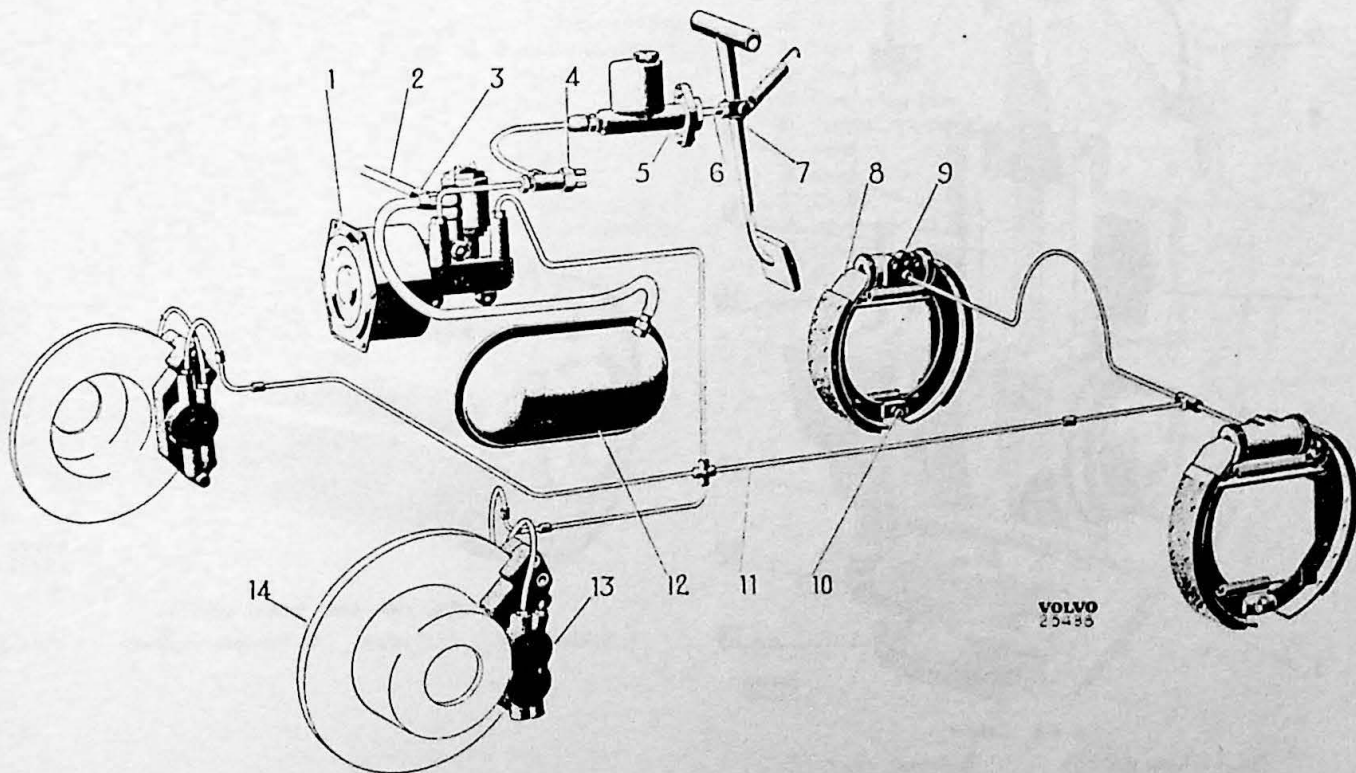

Fig. 7-1. Footbrake system
The design of the footbrake is shown in Figs. 7-1—7-5.
The front wheel brake units are of the disk brake type. The disks (14, Fig. 7-1) are of steel and are attached to the hubs with which they rotate. A retainer (13) is fitted at each steering knuckle for the wheel unit cylinders and brake blocks, known as calipers. In addition, protective covers for the brake disks are also fitted on the steering knuckles. The brake blocks
The rear wheel brakes are of the drum type. The upper end of the brake shoes rests against a double-acting wheel unit cylinder (9, Fig. 7-1) and the lower end against an adjusting device (10).
When the brake pedal (7, Fig. 7-1) is depressed this influences the plunger in the master cylinder (5) by means of a thrust rod (6). The hydraulic pressure in the master cylinder then rises and is transmitted through the brake fluid to the servo-brake cylinder